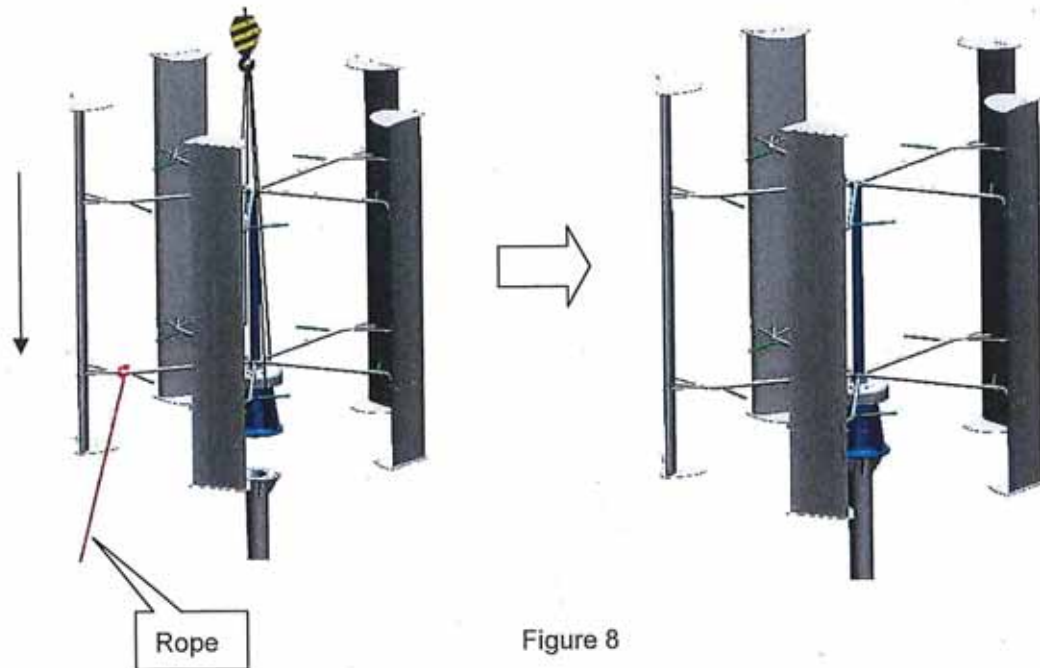

Figure 8
3.2.9 Lift the wind turbine onto the top of the tower using a crane. Make sure to use all the lifting eyelets on the generator base. Use a rope to pull the turbine to prevent it from turning or flipping when lifted up. Fix the generator base with the tower using bolts (M24X100), flat washer (Φ24), and locknuts (M24). Refer to Figure 8.